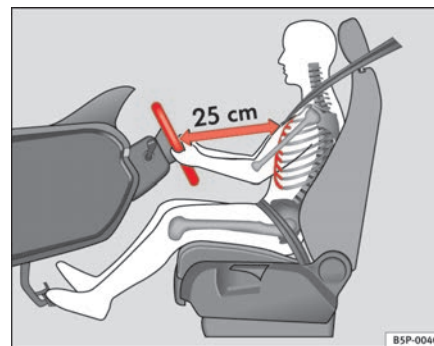

Fig. 116 Proper sitting position for driver
- Adjust the steering wheel in this way until the correct position is set ⇒ fig. 116.
- Adjust the driver seat or steering wheel so that there is a distance of at least 25 cm between the steering wheel and your chest ⇒ page 154, fig. 116. If you fail to observe the minimum distance, the airbag will not protect you. Risk of fatal injury.